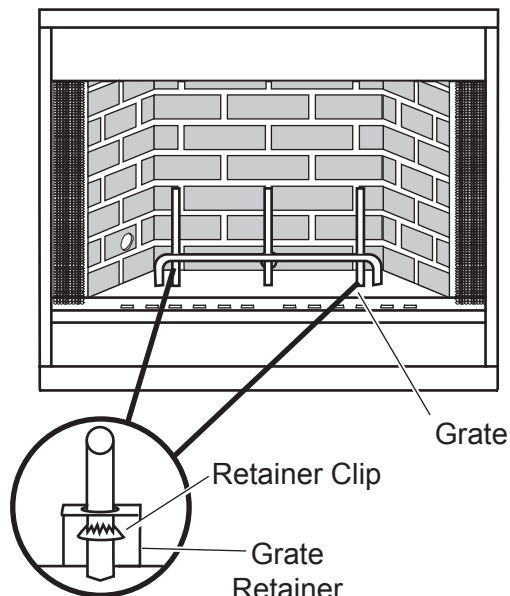

Figure 32 - Retainer Location.
2. Remove retainer clip from grate retainer. *See Figure 32.*